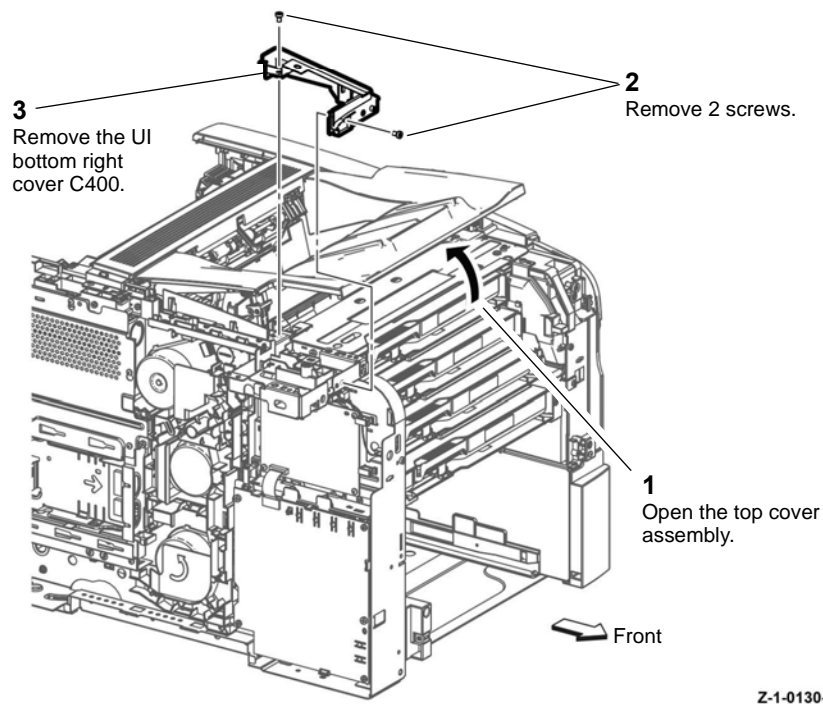

Figure 1 UI bottom right cover
2. Remove the UI bottom right cover C400, Figure 1.